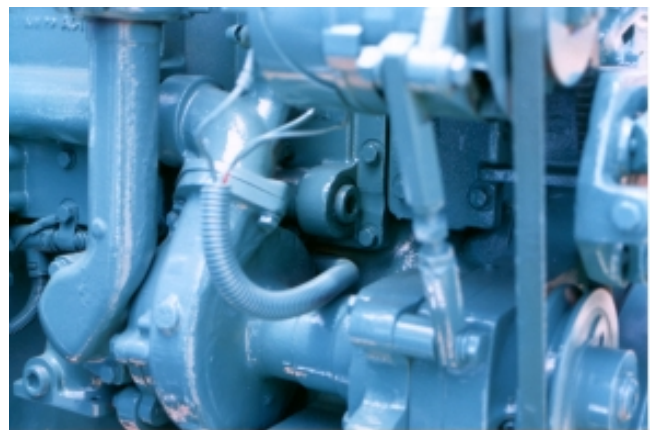

Fig. 1-5. Lubricating system priming point—KT/KTA-1150 engines.
2. Remove plug from head of lubricating oil filter housing (Fig’s. 1-2, 1-3) or filter can to prime system. On the KT-1150 Engines remove plug from front of oil cooler housing. Fig. 1-5.